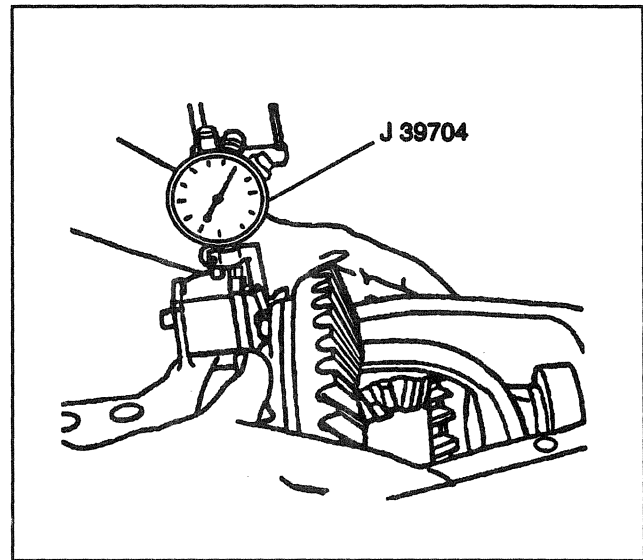

Figure 16—Determining Differential Shim Pack
2. Mount a dial indicator having a minimum travel of 5 mm (0.200 inch) with a magnetic base on the ring gear bolt side of the housing (Figure 16).